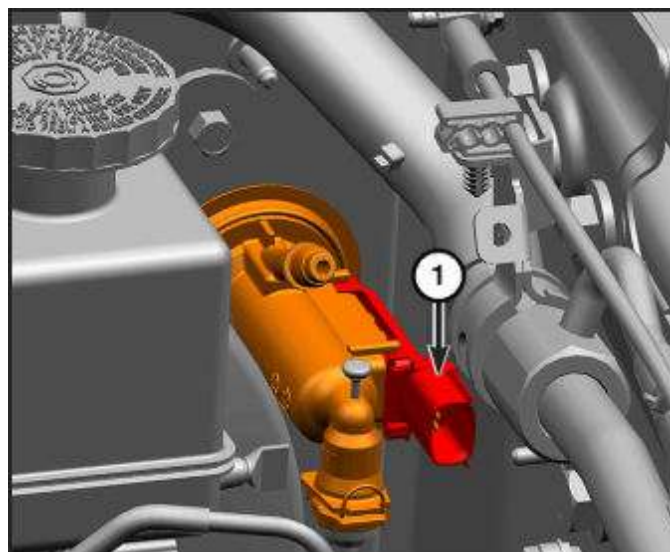

Fig. 1
2. Remove the clutch interlock switch connector and inspect the electrical terminals Fig. 1 for pitting/ corrosion.